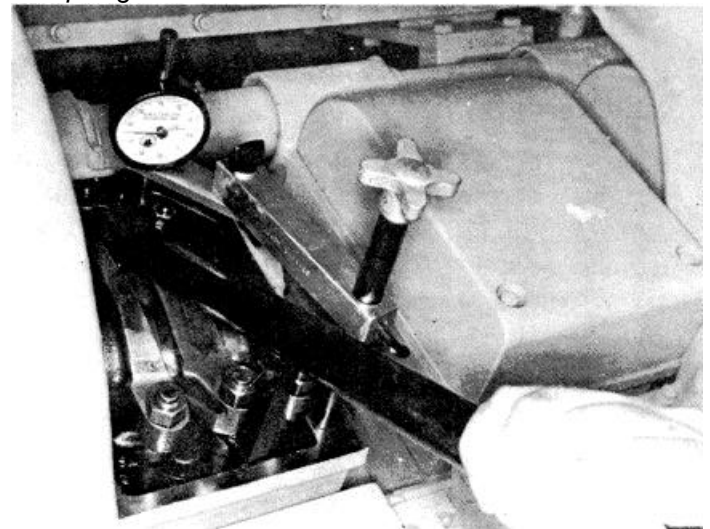

Fig 2-63, (K21921). Bottoming Injector plunger in cup
3. Using the rocker lever actuator, Fig. 2-63, depress the lever toward the injector until the plunger is bottomed in the cup to squeeze the oil film from the cup. Allow the injector plunger to rise, bottom again, hold in the bottom position and set the indicator at zero (0). Check the extension contact with the plunger top.